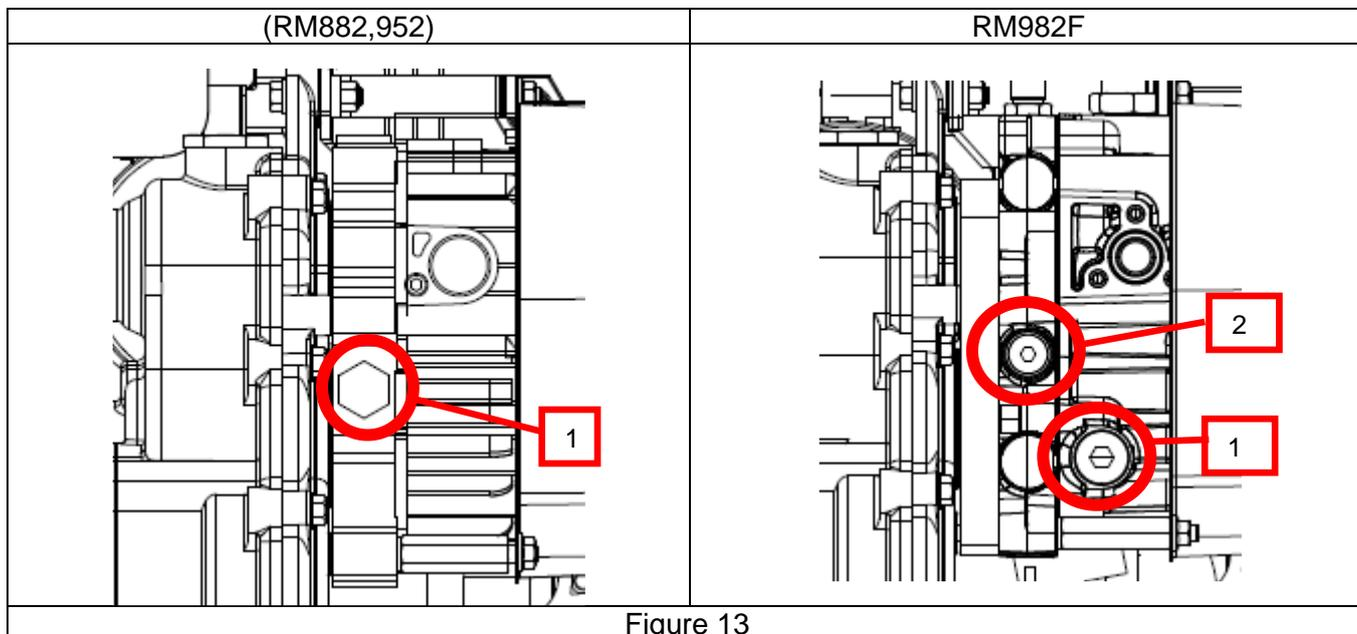
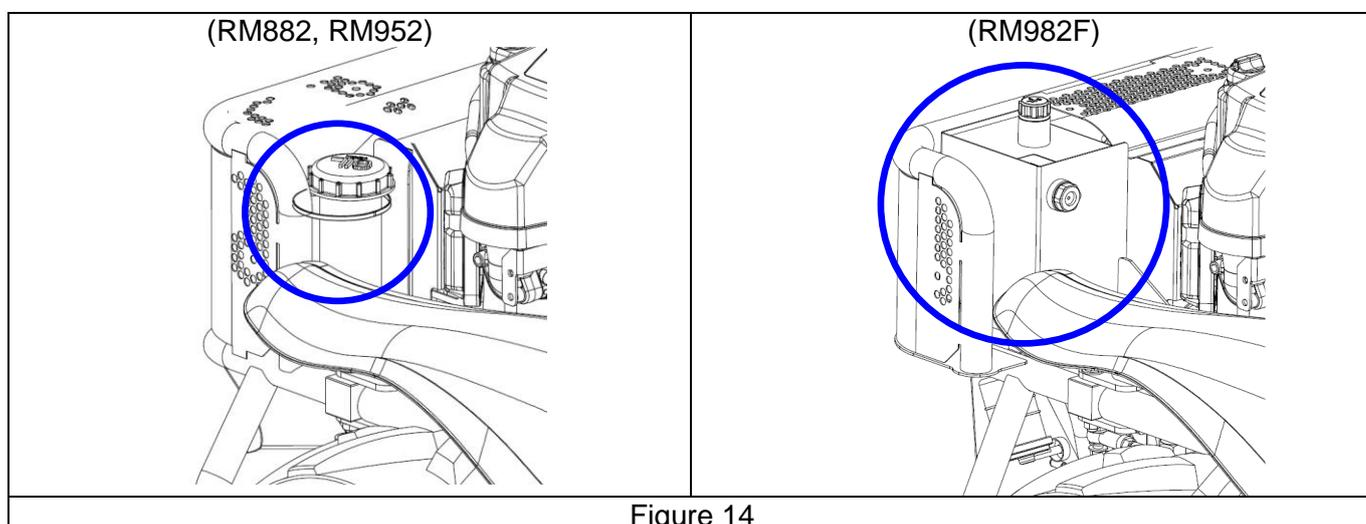

Figure 13
Figure 14
HST oil level (Figure 14)
Rear HST oil replacement (Figure 13,Figure 14)
1. Place the suitable container below the HST unit to catch the oil, then remove the oil drain plug (1 Figure 13).
Never loose the bolt (2 Figure 13). Otherwise, it might influence for machine driving.
If not, add oil up to "High level position" in oil tank.(figure 14)